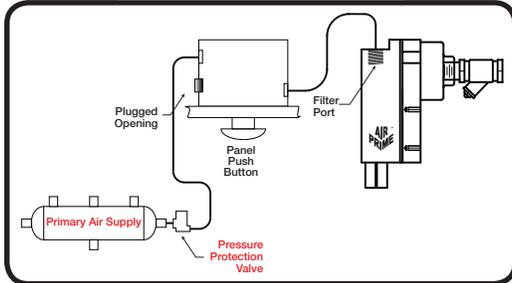

Figure 1
2. Locate the existing Manual *AirPrime* unit within pump enclosure. It can be found by tracing the existing air line from the PUMP primer push-button control on the pump panel to the TOP of the *AirPrime* unit (See **Figure 1**). Verify that the unit is already mounted ABOVE the highest priming point in suction piping (Including the new second priming location), if not move it higher.